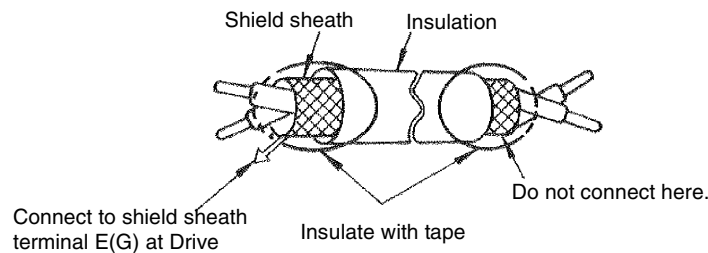

Fig 2.12 Preparing the Ends of Twisted-pair Cables
4. Use twisted-pair or shielded twisted-pair cables for control circuits to prevent operating faults. Prepare cable ends as shown in Fig 2.12.